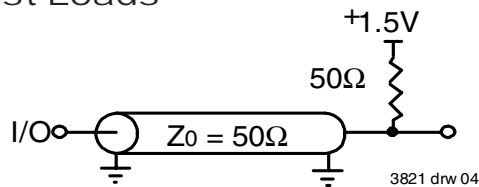

Figure 1. AC Test Load
| AC Test Load | See Figures 1 |
- These parameters are guaranteed with the AC load (Figure 1) by device characterization. They are not production tested.